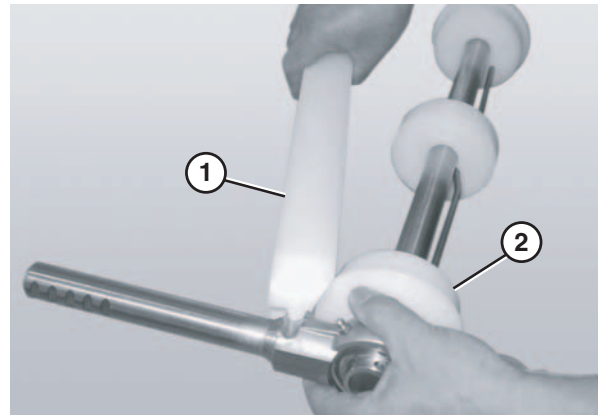

Figure 87
3. Attach the flanged pucks (Figure 87, item 2) and bearing shaft assemblies to the idler shaft.
4. Attach the guard bar (Figure 87, item 1).